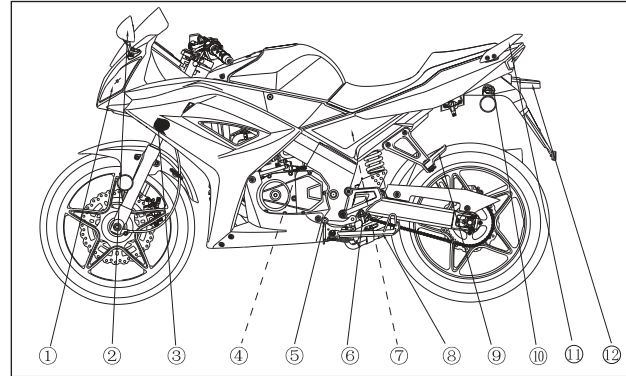

Figure 1 Left side view
1. Left Side View (Figure1):
- ① Headlight, LH
- ② Left rear view mirror
- ③ Front turn signal, LH
- ④ Engine number